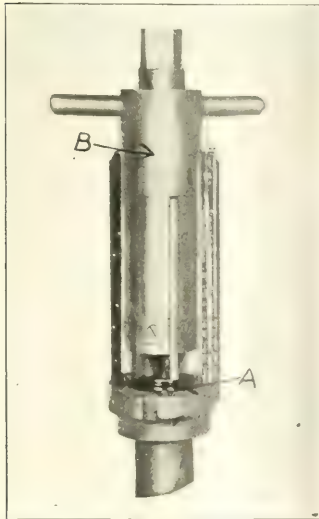

FIG. 2.
Placing a 3/16-inch washer (A) Fig. 2, on the bottom of the bush, the distance